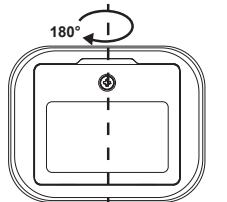

FIG. 2
- d. In the same location, rotate the equipment 180°(see the following FIG. 2), then press the **MODE** button, "CAL 2" flashes several times. After the "CAL 2" disappears, the calibration is completed and then the LCD will show the current angle in high-accuracy-display.